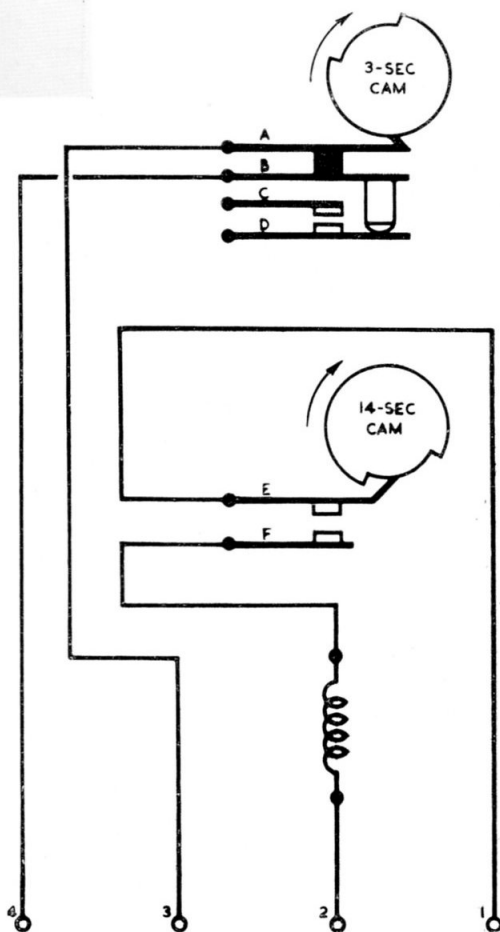

Fig. 2. Circuit diagram
3. *Fig. 2* illustrates the internal circuit, and shows the position of the cams at the end of the run and with the coil de-energized. The 3-second cam operates a set of change-over contacts, of which only the normally-closed pair (A and B) are used to maintain a supply via terminals 3 and 4 for 3 seconds ± 0.5 seconds. After contacts A and B have opened, the mechanism will continue to run for a further 11 seconds until the 14-second cam opens contacts E and F, thus breaking the supply to the coil.